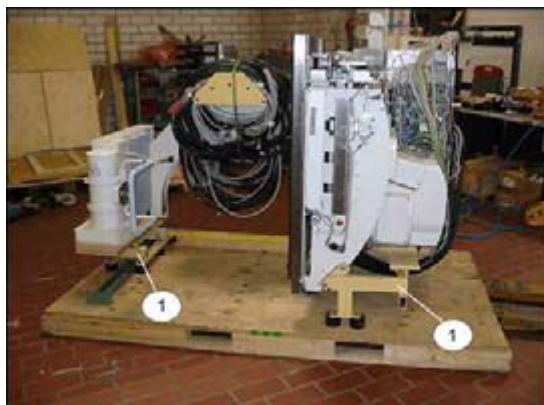

Fig. 12: Screwing on the transport frame
- Fasten the 4 transport rollers to the transport frame via 2 Allen screws M12 x 25 and washers per transport roller (1/Fig. 12 / p. 17).